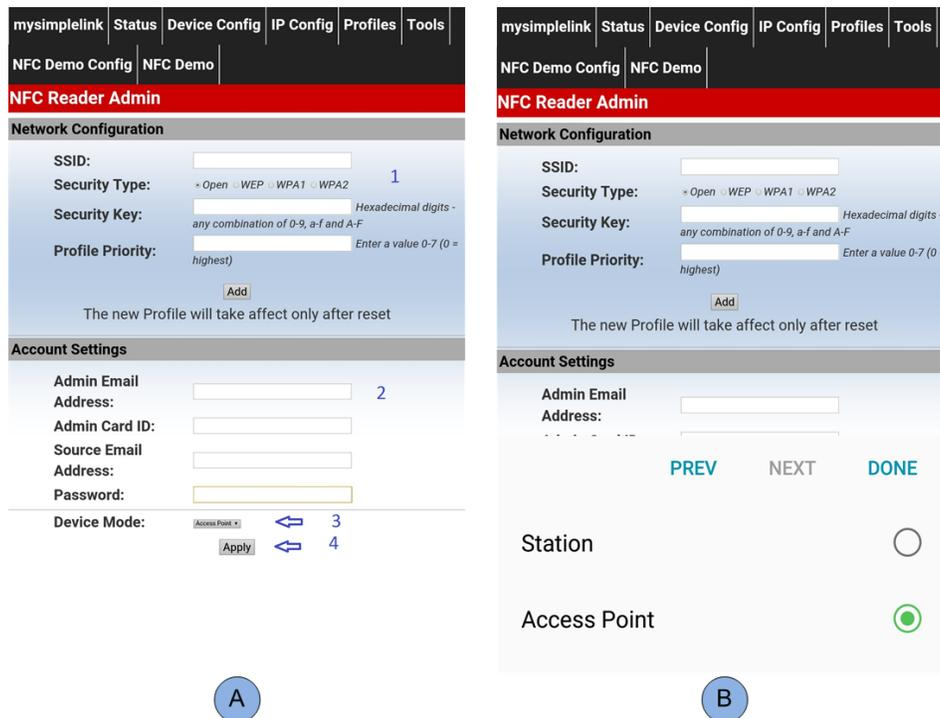

Figure 9. The NFC Demo Config Tab from the HTML Page
8. Click Add. (See Figure 9.)
12. Enter the Email Password. (See Figure 9.)
13. Change the device role from AP to STA. (See Figure 9.)